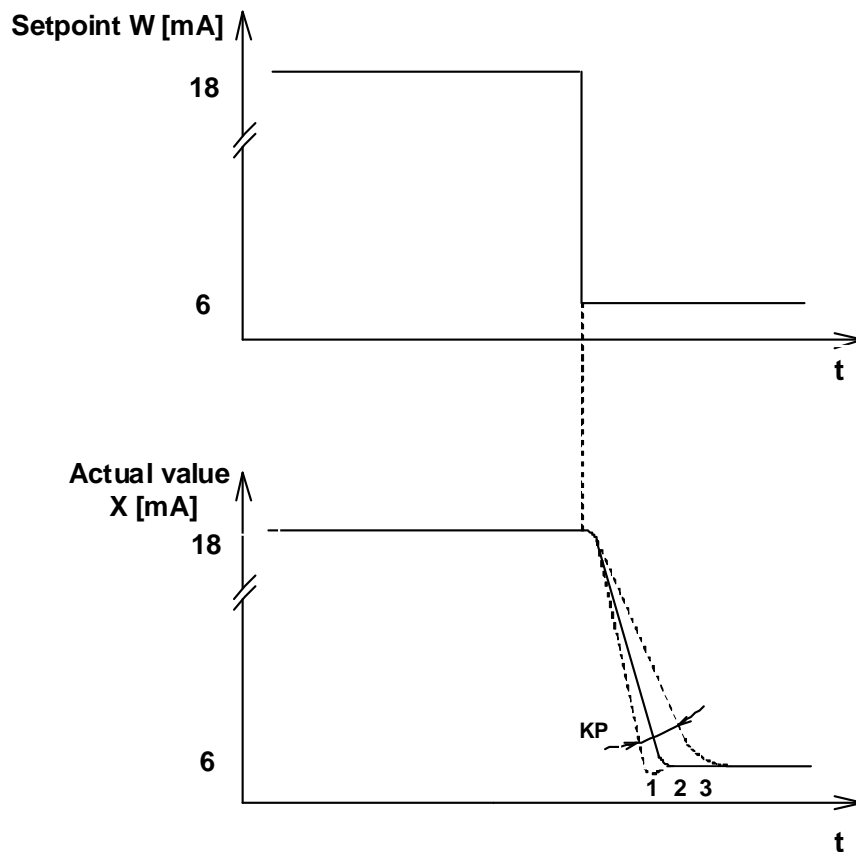

Fig. 4
- Vary the gain with potentiometer KP until the time-dependent course of the actual value corresponds to characteristic curve 2 in Fig. 4.